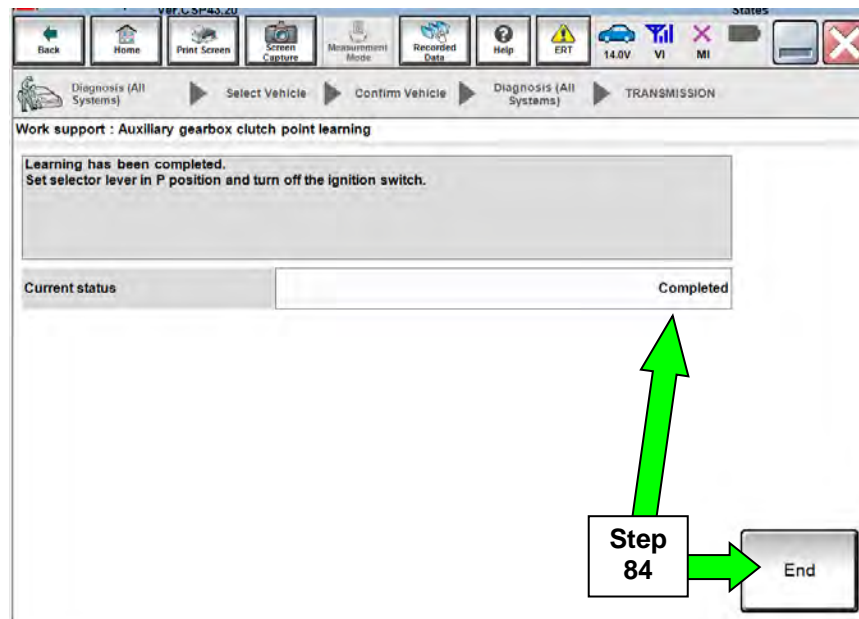

Figure 46
84. Continue to depress the brake pedal until the Current status shows “Completed” as shown in Figure 46 on the next page.